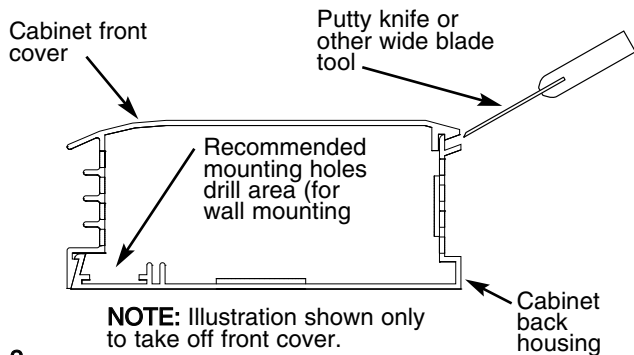

Fig. 2
16. To avoid damaging heater, do not use a screw driver to separate front cover from back housing. Use only a putty knife as shown, see Fig. 2
2. Remove front cover by laying the heater on its back and inserting a putty knife (or other thin, wide blade tool, 1" [25mm] wide minimum) approximately 6" (152mm) from the end of the heater and prying up as shown in Fig. 2. This will spring the snap lock closure open. Repeat as required down the length of the heater until the front cover completely disengages from the heater back.
- Drill the required size mounting holes in the heater housing (See Fig. 2 for recommended mounting hole location.)
- Drill the required size mounting holes in all the heater housings. (See Fig. 2 for recommended holes in mounting hole location.)